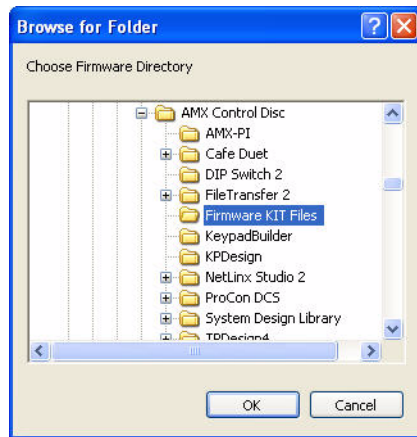

FIG. 59 Browse For Folder dialog (NetLinx Studio)
- Click the Browse (...) button to navigate to the target directory in the Browse For Folder dialog (FIG. 59).